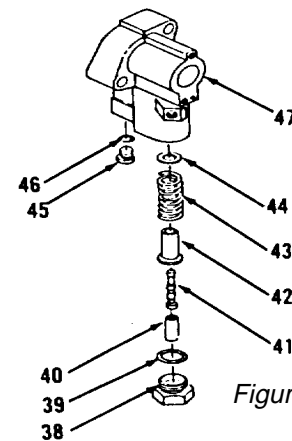
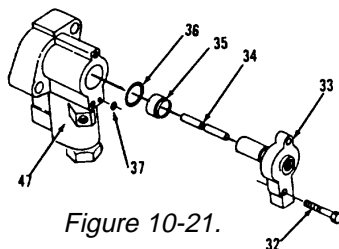

Figure 10-22.
Figure 10-21.
72. Install new preformed packing (46) and plug (45) in housing (47, Figure 10-22).
73. Install two shim(s) (44), spring (43), retainer (42), piston (41), spacer (40), new preformed packing (39) and plug (38).
74. Install new preformed packings (37 and 36), spacer (35), piston (34), cover (33) and two bolts (32) to housing (47, Figure 10-21).